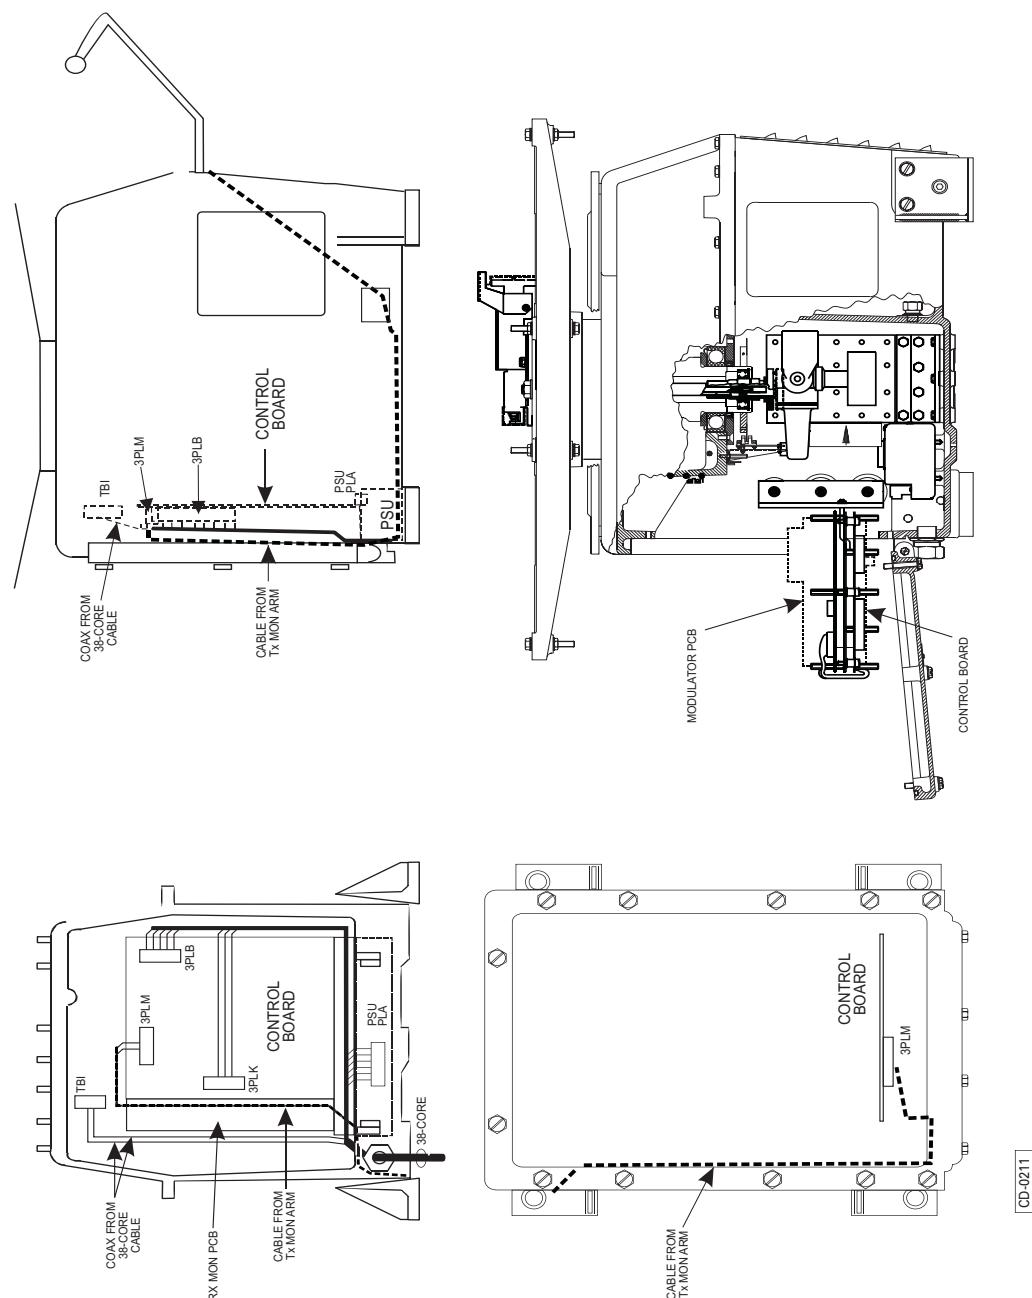

Figure 8d - Upmast Transceiver: PCB Location and Cableform Routing
- 53 Location of PCBs and cableform routing in the transceiver are shown on Figure 8d.